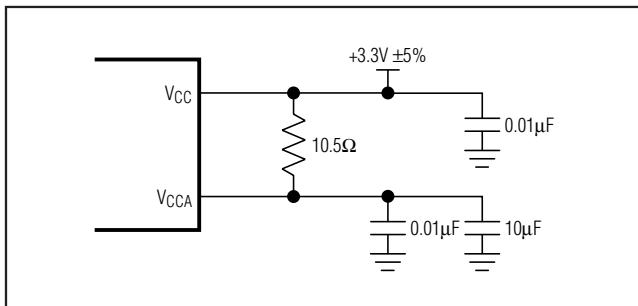

Figure 2. Analog Supply Filtering
**Note 1:** A series resistor of up to  $10.5\Omega$  is allowed between  $V_{CC}$  and  $V_{CCA}$  for filtering supply noise when system power-supply tolerance is  $V_{CC} = 3.3V \pm 5\%$ . See Figure 2.
**Note 6:** Measured with  $40mV_{pp}$ , 100kHz sinusoidal signal on the supply with  $V_{CCA}$  connected as shown in Figure 2.
The MAX3622 is a mixed analog/digital IC. The PLL contains analog circuitry susceptible to random noise. In addition to excellent on-chip power-supply noise rejection, the MAX3622 provides a separate power-supply pin, VCCA, for the VCO circuitry. Figure 2 illustrates the recommended power-supply filter network for VCCA. The purpose of this design technique is to ensure clean input power supply to the VCO circuitry and to improve the overall immunity to power-supply noise. This network requires that the power supply is +3.3V ±5%. Decoupling capacitors should be used on all other supply pins for best performance.